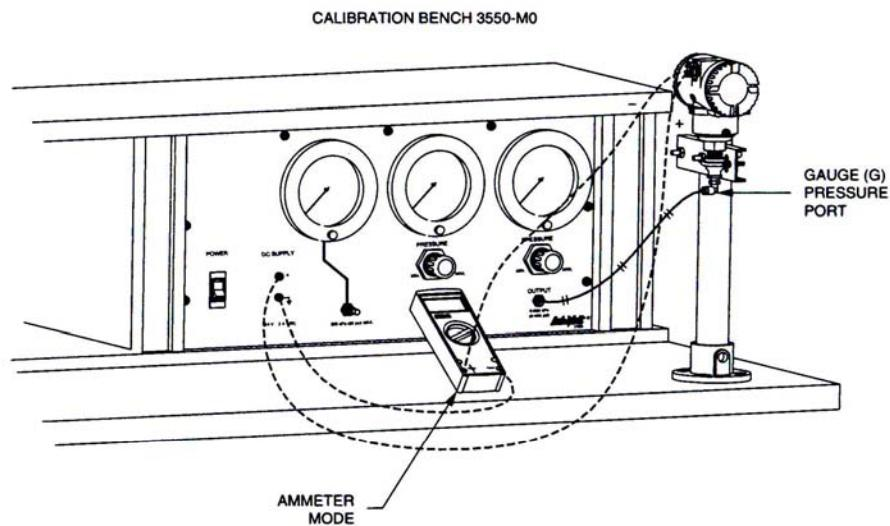

Figure 2-1. Calibration of a Pressure Transmitter.
- 3. Connect the one quarter inch tubing as shown in Figure 2-1. Use a male fitting from the patch cord package to make the connection at the 0-690 kPa (0-100 psi) regulator port.
- 4. Connect the digital multimeter (DMM) of the Calibration Bench (placed in ammeter mode) and the transmitter to the 24 V dc power supply. Note the polarity as shown in Figure 2-1. The transmitter red supply lead corresponds to the positive (+) lead, while the yellow supply lead corresponds to the common lead. The transmitter can deliver a maximum current of 20 mA. Select the appropriate current range on the multimeter. Turn on the 24 V dc power supply.